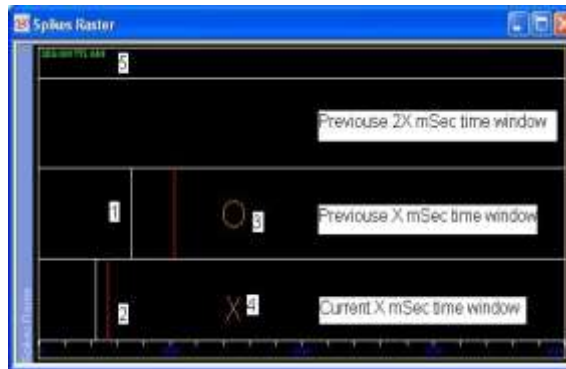

Figure 30: Raster display window when trigger is connected
- b. Detection according to a trigger (digital input (TTL1-4)). The raster window displays a cross when the trigger changes from down to up (number 4 in *Figure 30*) and a circle when it changes from up to down (number 3 in *Figure 30*).